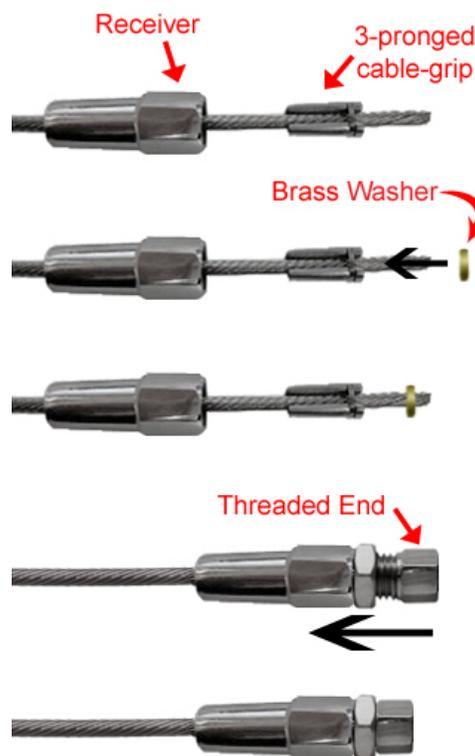

Fig 6
- b. Place 3-pronged cable-grip onto cable by spreading prongs apart and pushing cable through until it exits the tied end between 3/8" and 1/2", but not more than 5/8" (Fig. 6)
- c. Slide receiver over 3-pronged cable-grip. Place the brass washer onto the cable (Fig. 6)
- d. Using 2 wrenches, one on receiver body and one on threaded end, tighten the fittings until they can no longer be tightened. (Fig. 6)